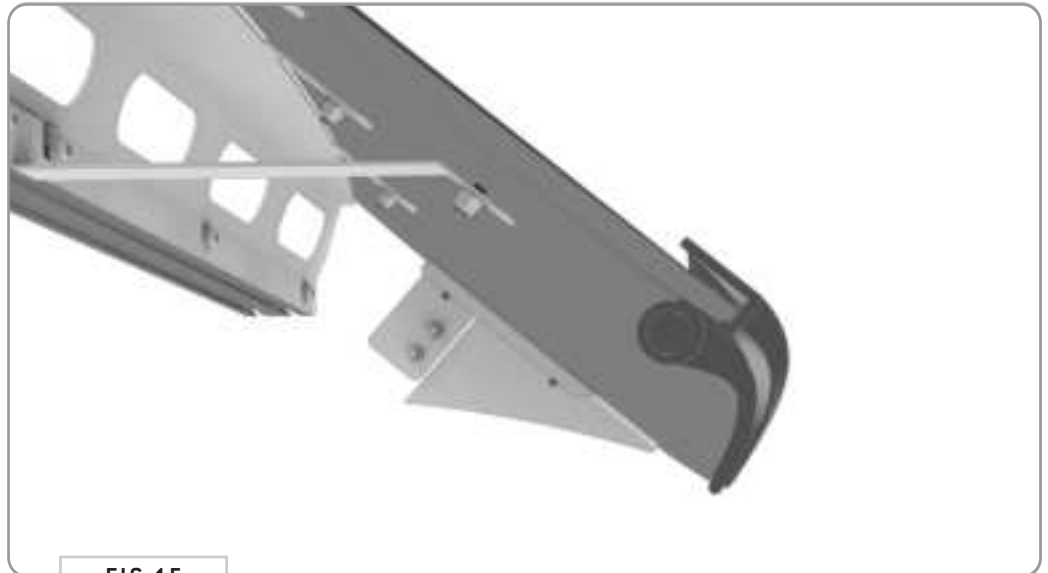

FIG 15
4.7 Fairing Gasket Trim: Attach the **Fairing Gasket Trim** to the **Front Fairing** in the orientation shown in **FIG 15**. Make sure the "bulbed" side is facing inward.